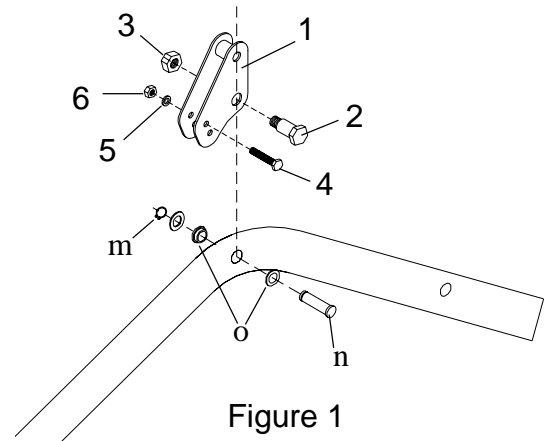

Figure 1
- Remove the circlip (m) and pull out the pin (n) on both sides; see Figure 1.